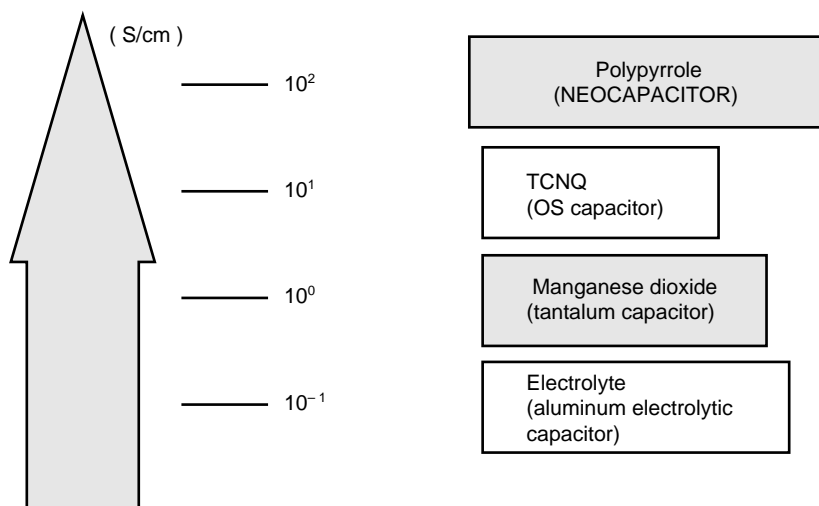

Figure 3. Comparison of Conductivity
* Refer to **Figure 3 Comparison of Conductivity**.
- (2) High temperature for thermal decomposition